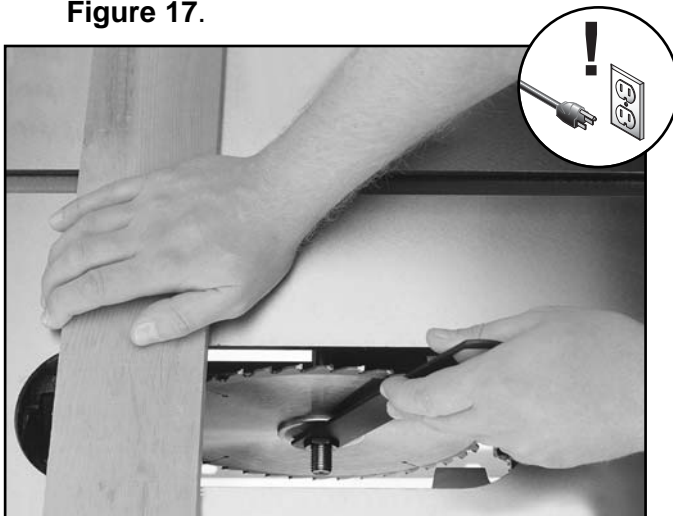

Figure 17. Changing saw blade.
5. Use the arbor wrench provided with the saw to tighten the arbor nut. Wedge a block of wood in the teeth of the blade to keep it from turning when tightening the nut as shown in **Figure 17**.